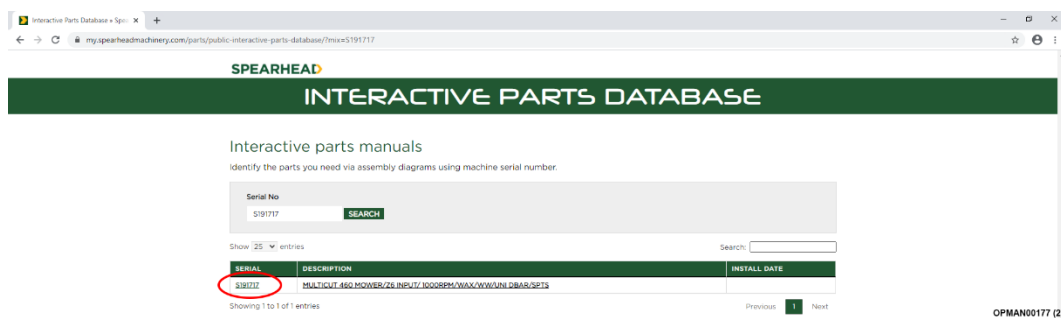

Figure 20 – Click On Serial Number
7.1.1.2 After entering the serial number a specification for the machine will appear. Click on the serial number; see Figure 20.